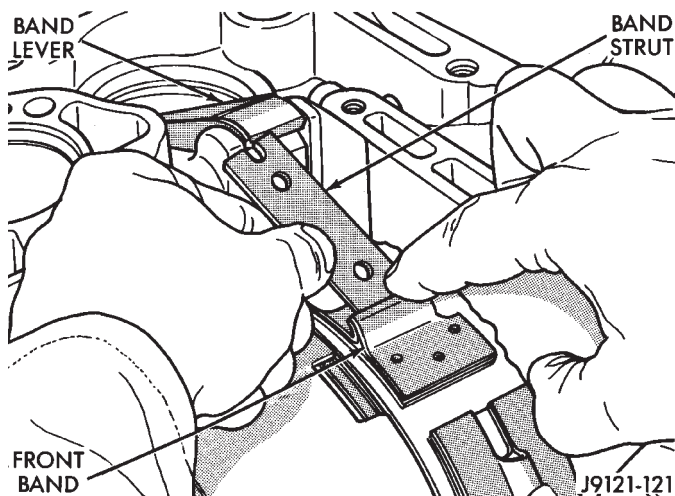

Fig. 11 Removing/Installing Front Band Strut
(18) Loosen front band adjusting screw until band is completely loose.
(19) Squeeze front band together and remove band strut (Fig. 11).